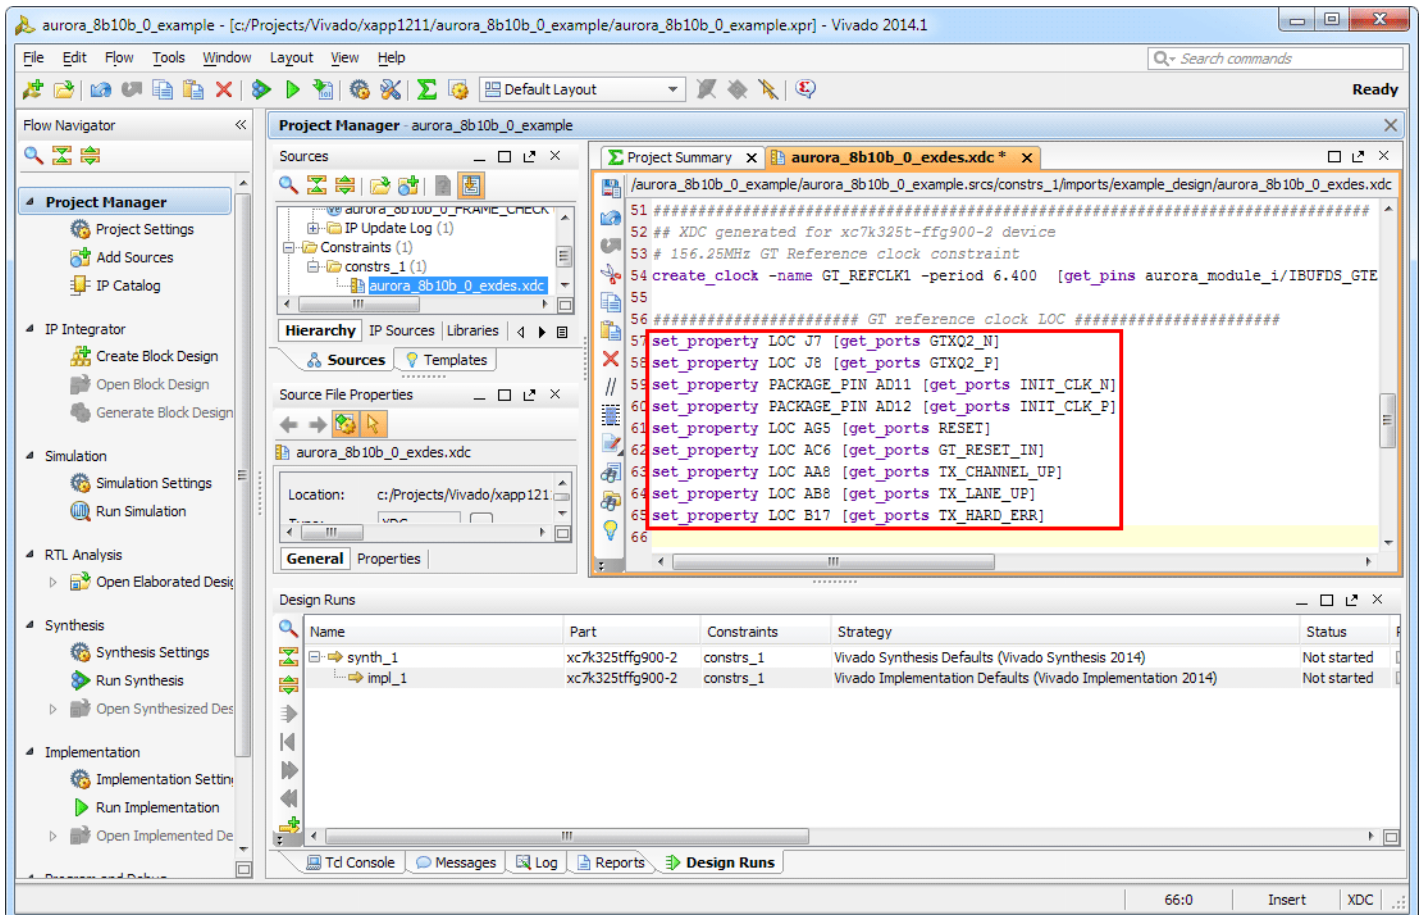

Figure 12: Simplex LOC Constraints
6. Referring to Table 1, replace the two LOC property statements with the following nine statements for the respective platform (see Figure 12):